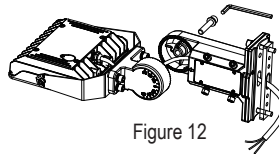

Figure 12
Step 5: Mount the two parts of the knuckle together, and, using an Allen key (5/16), lock the two halves together. (Figure 12, 13)